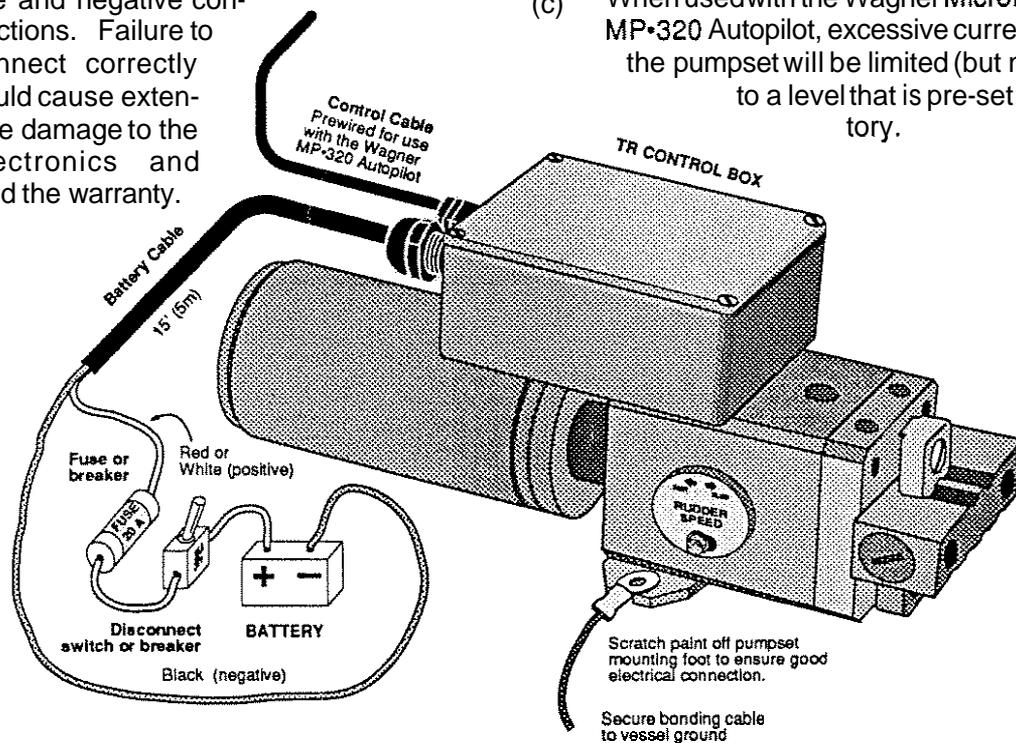
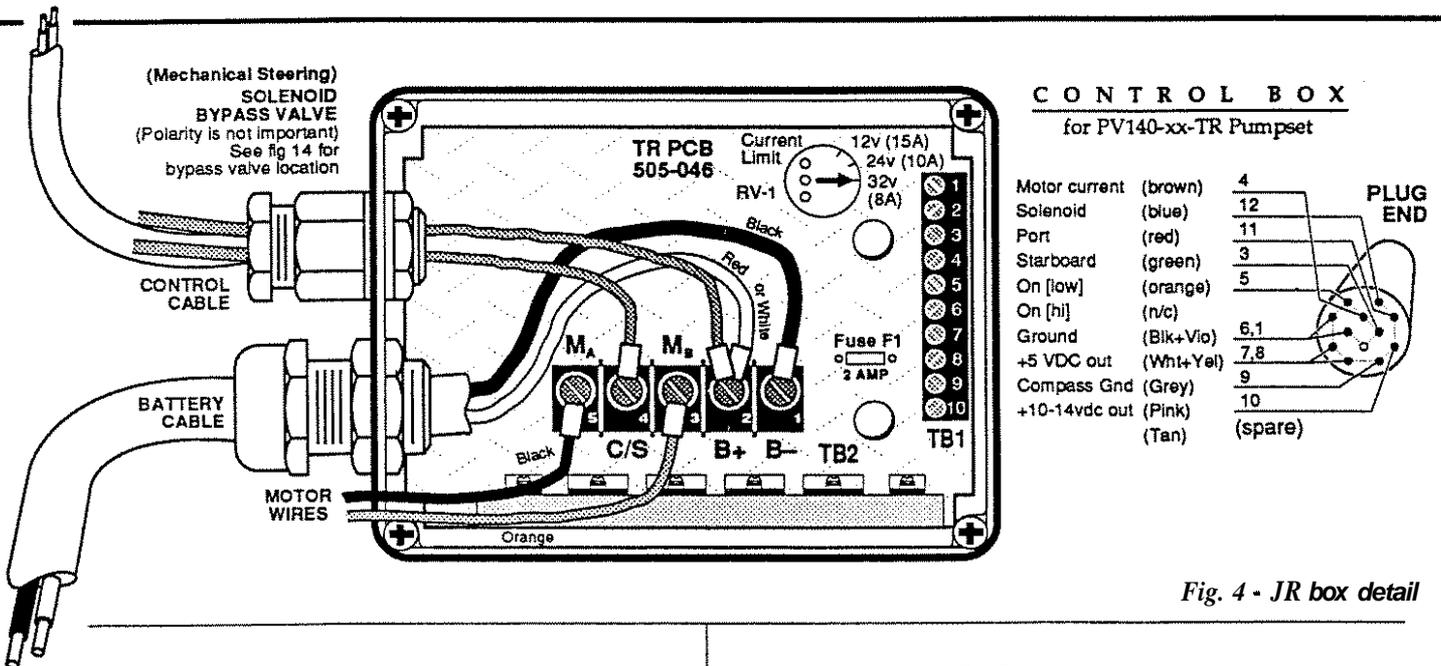
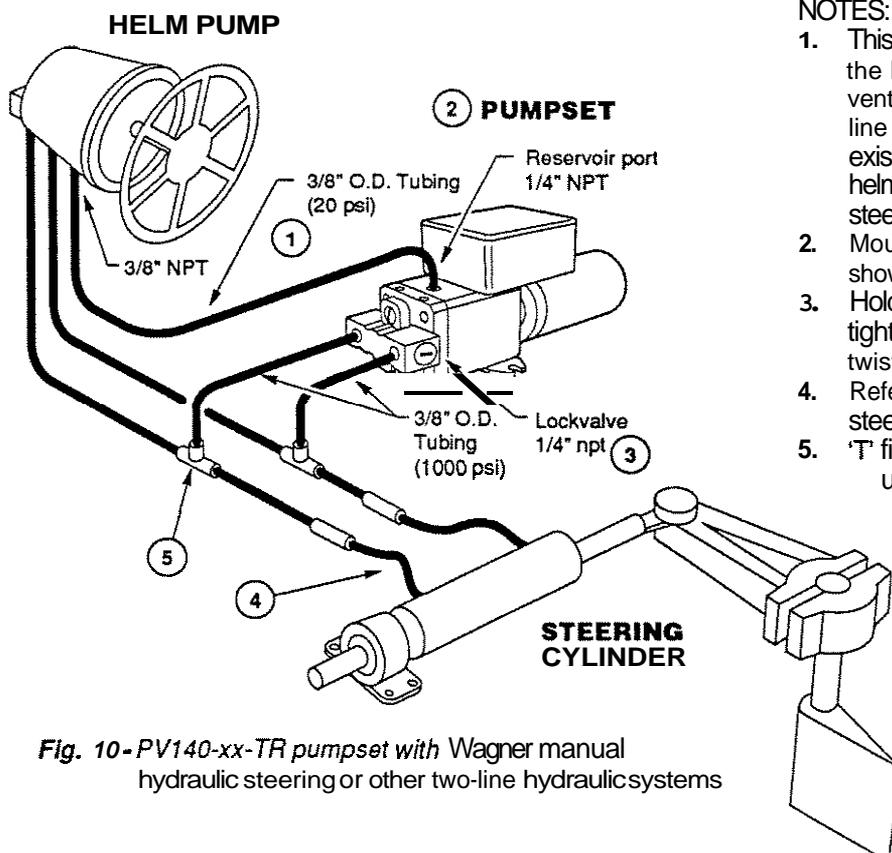
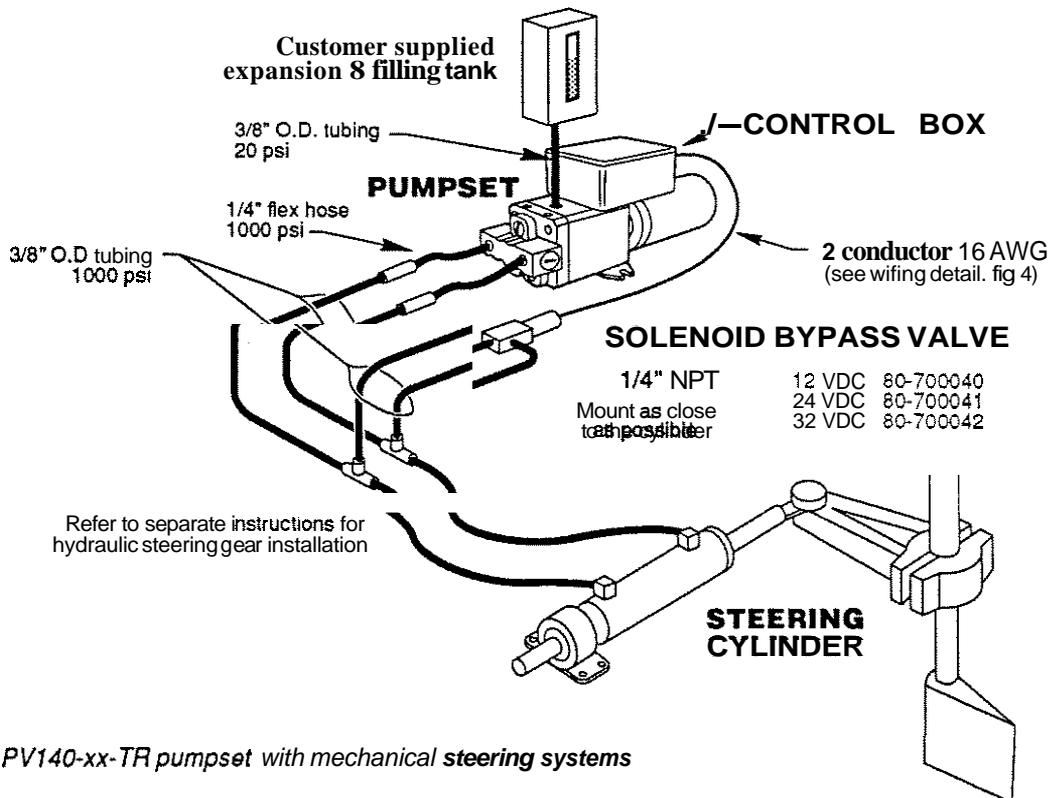

Fig. 2 - Pumpset power supply hookup
Fig. 4 - JR box detail
Fig. 10 - PV140-xx-TR pumpset with Wagner manual hydraulic steering or other two-line hydraulic systems
Fig. 14 - PV140-xx-TR pumpset with mechanical steering systems
5. Wagner Type PV140-xx-TR pumpsets can be deactivated by disconnecting the power going to terminals 1 and 2 (on terminal block TB2) in the pumpset electrical connection boxes. Install a separate switch in a readily accessible location, if necessary. (See fig. 2 & fig. 4).
4. Mount the pumpset horizontally, with the reservoir port facing up (see fig. 10 note 2).
**Pumpset Power Supply** (See fig. 2)
(b) A thermal circuit breaker is preferred because it will tolerate a moderate overload before tripping, and also serves as a disconnect switch. Refer to Fig. 2 for wiring details. Select the correct size breaker or fuse according to the system voltage that is being used:
5. Fig. 10 illustrates the Wagner PV-140-xx-TR pumpset connected to a two-line hydraulic system. When connecting the TR pumpset to Teleflex or Hynautic three-line steering systems, refer to Figs. 11-13. Fig. 14 illustrates the Wagner PV-140-xx-TR pumpset connected to a mechanical steering system. Fig. 4 shows terminal and fuse location.
2. The main steering lines between the helm pump(s) and cylinder must be filled first. A Wagner system is filled through the highest (or only) helm pump in the system. The filler hole on all other helm pumps must be closed with a pipe plug. (Refer to the piping diagram, fig. 10.) When connecting to a mechanical steering system (see fig. 14), oil is filled through the expansion tank (customer supplied). Instructions 3 to 5 following are to be ignored. If a non-Wagner system is being installed, refer to the owner's manual for filling instructions.